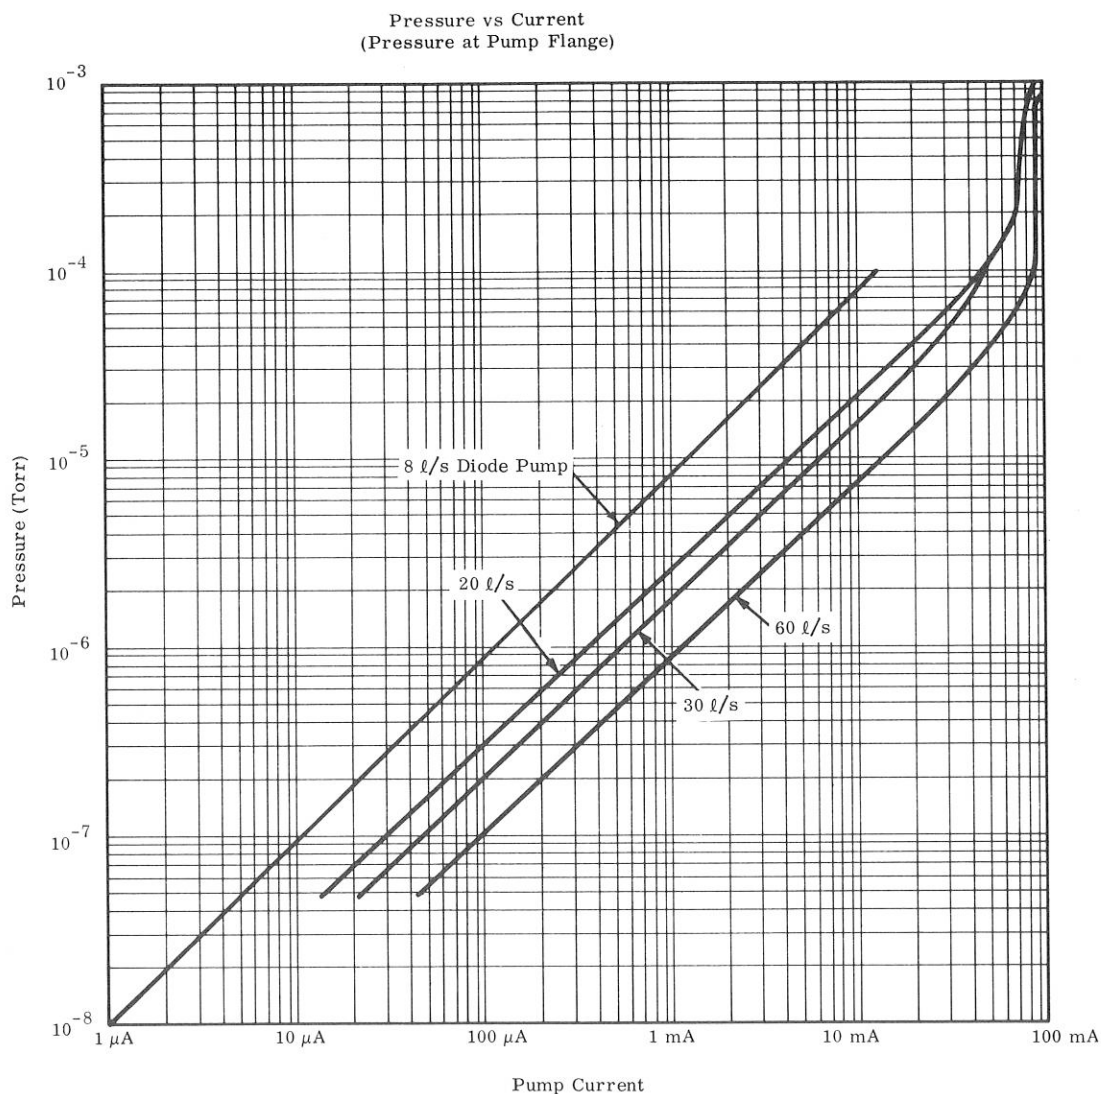

Figure 7. Pressure vs Current
2. Because the pressure within a VacIon Pump is proportional to the current drawn by the pump, it can be determined from the Pressure vs Current graph (Figure 7). Turn the METER RANGE SELECTOR to an appropriate setting between 200 mA and 20 μ A. Read the current on the meter and locate the corresponding pressure on the appropriate curve for that pump. The accuracy obtained is comparable to that of a good ionization gauge.